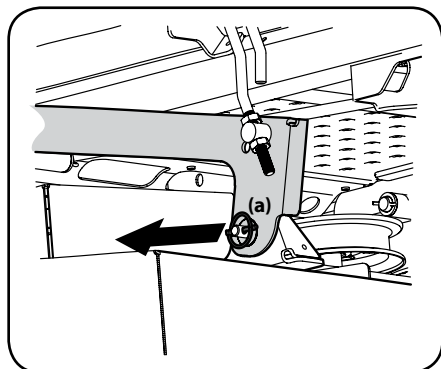

Figure 4-18
6. Locate the LH and RH deck release pins (a) on each side of the deck. Pull the release pins outward and release the deck from the LH and RH deck lift arms. See Figure 4-18.
5. Pull the deck release pins outward and maneuver the deck as necessary to align the holes in the deck lift arms with the pins. Refer to Figure 4-18.